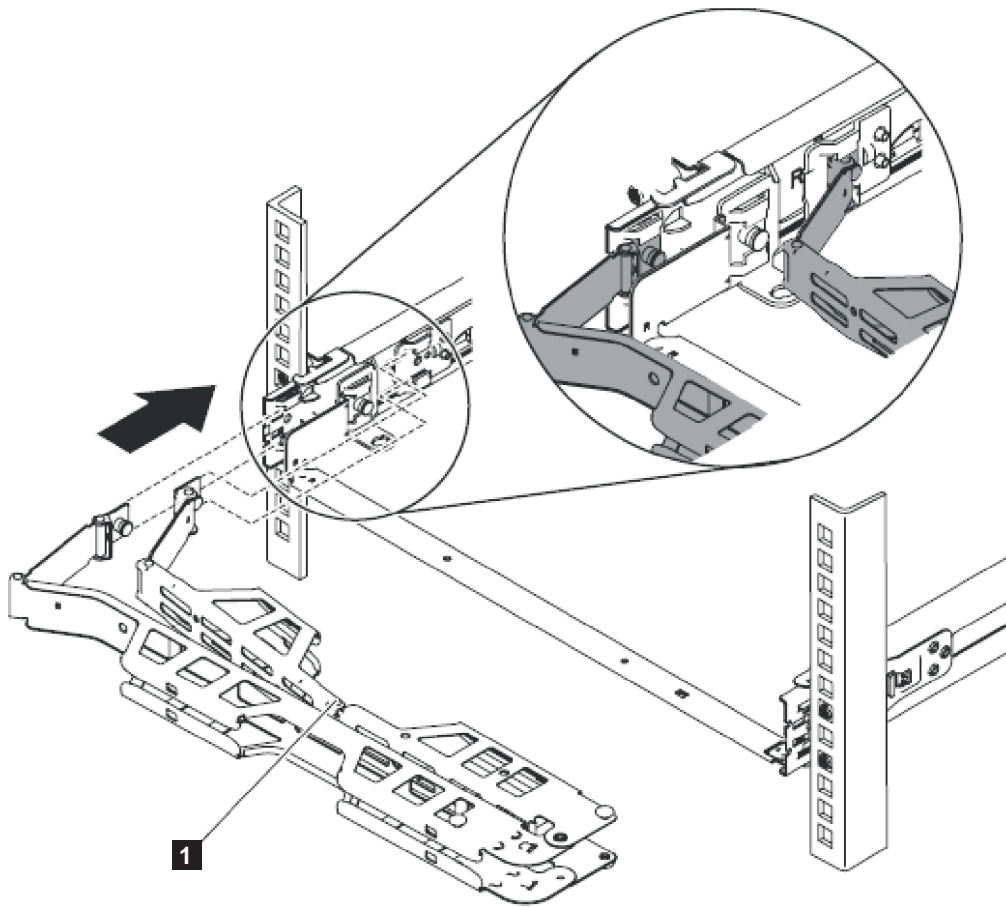

Figure 38. Installing the cable-management arm
2. Install the cable management arm, as shown in Figure 38 on page 49.
Note: Make sure that the junctions on the arm, as shown by **1** in Figure 38, are facing the node.